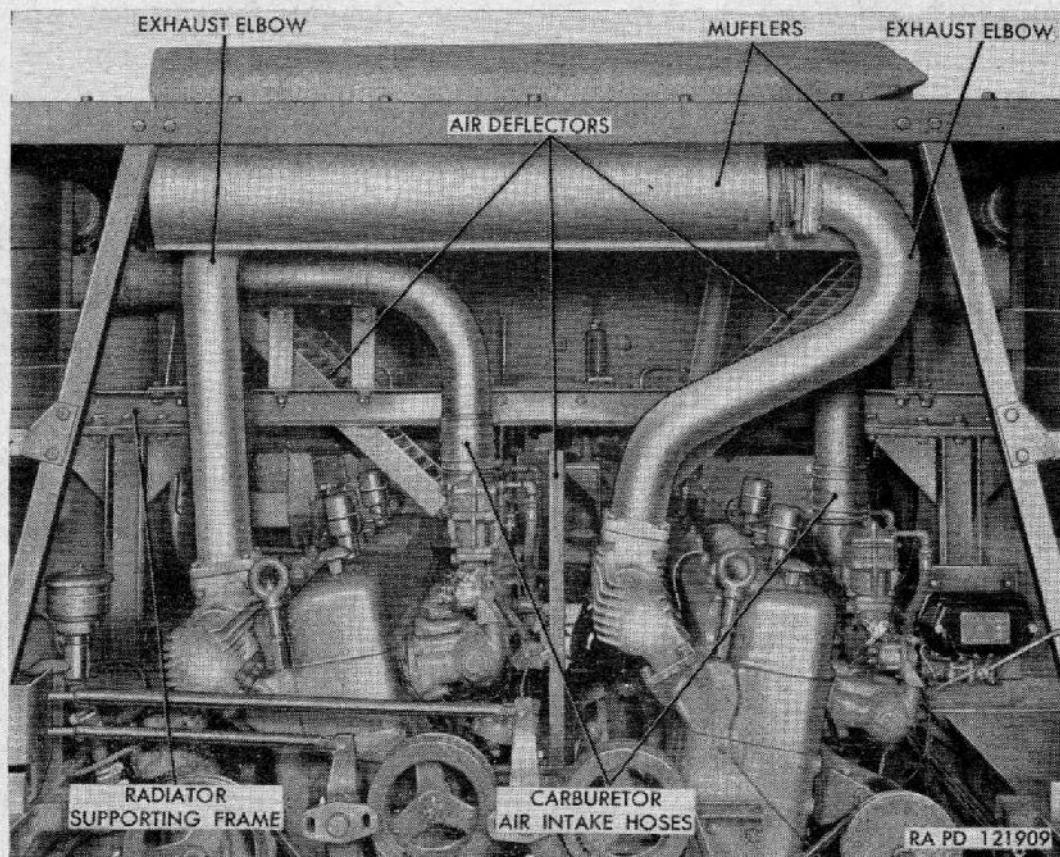

Figure 61. Exhaust manifolds and mufflers.
a. Removal (fig. 61). Open top engine grilles. Remove four cap screws from attaching flanges of each muffler to disconnect ends of mufflers from upper end of exhaust elbows. Remove the bolts at each end of hood frame cross member from which the mufflers are suspended. Lift mufflers from hood. Remove bolt at each end of muffler to separate the mufflers from mounting channel. The clamp can then be loosened to remove attaching flange from end of muffler.
b. Installation (fig. 61). Install flanges at end of mufflers and tighten clamp. Position the two mufflers together and install a bolt